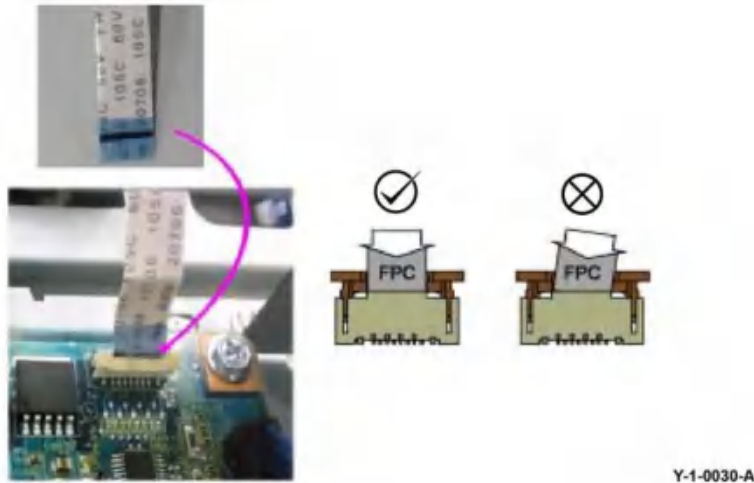

Figure 14 FFC LED cable
4. Be aware that when connecting the FFC LED cable, Figure 14: